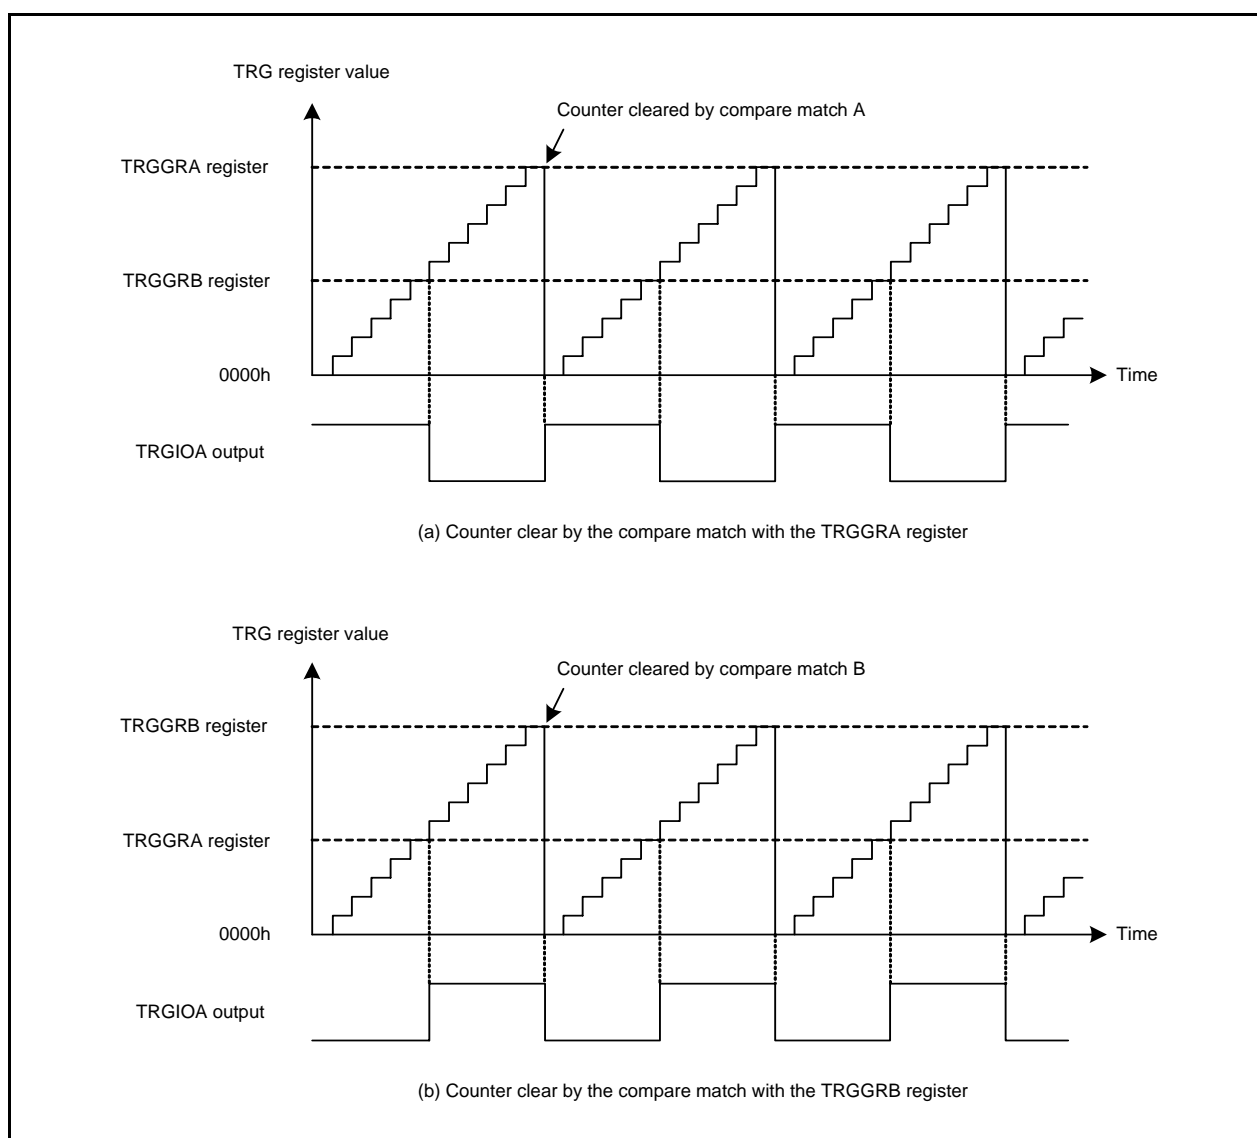

Figure 23.14 Operating Example (1) in PWM Mode
Figure 23.14 shows an Operating Example (1) in PWM Mode.